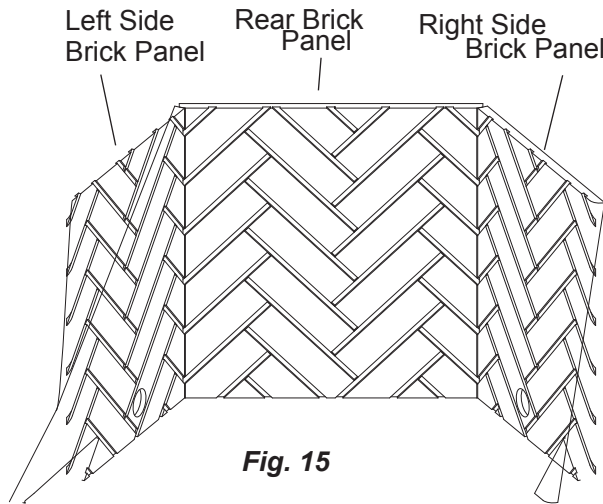

Fig. 15
2. Arrange panels on top of packaging, and identify each piece and the order of assembly. (See Fig. 15)